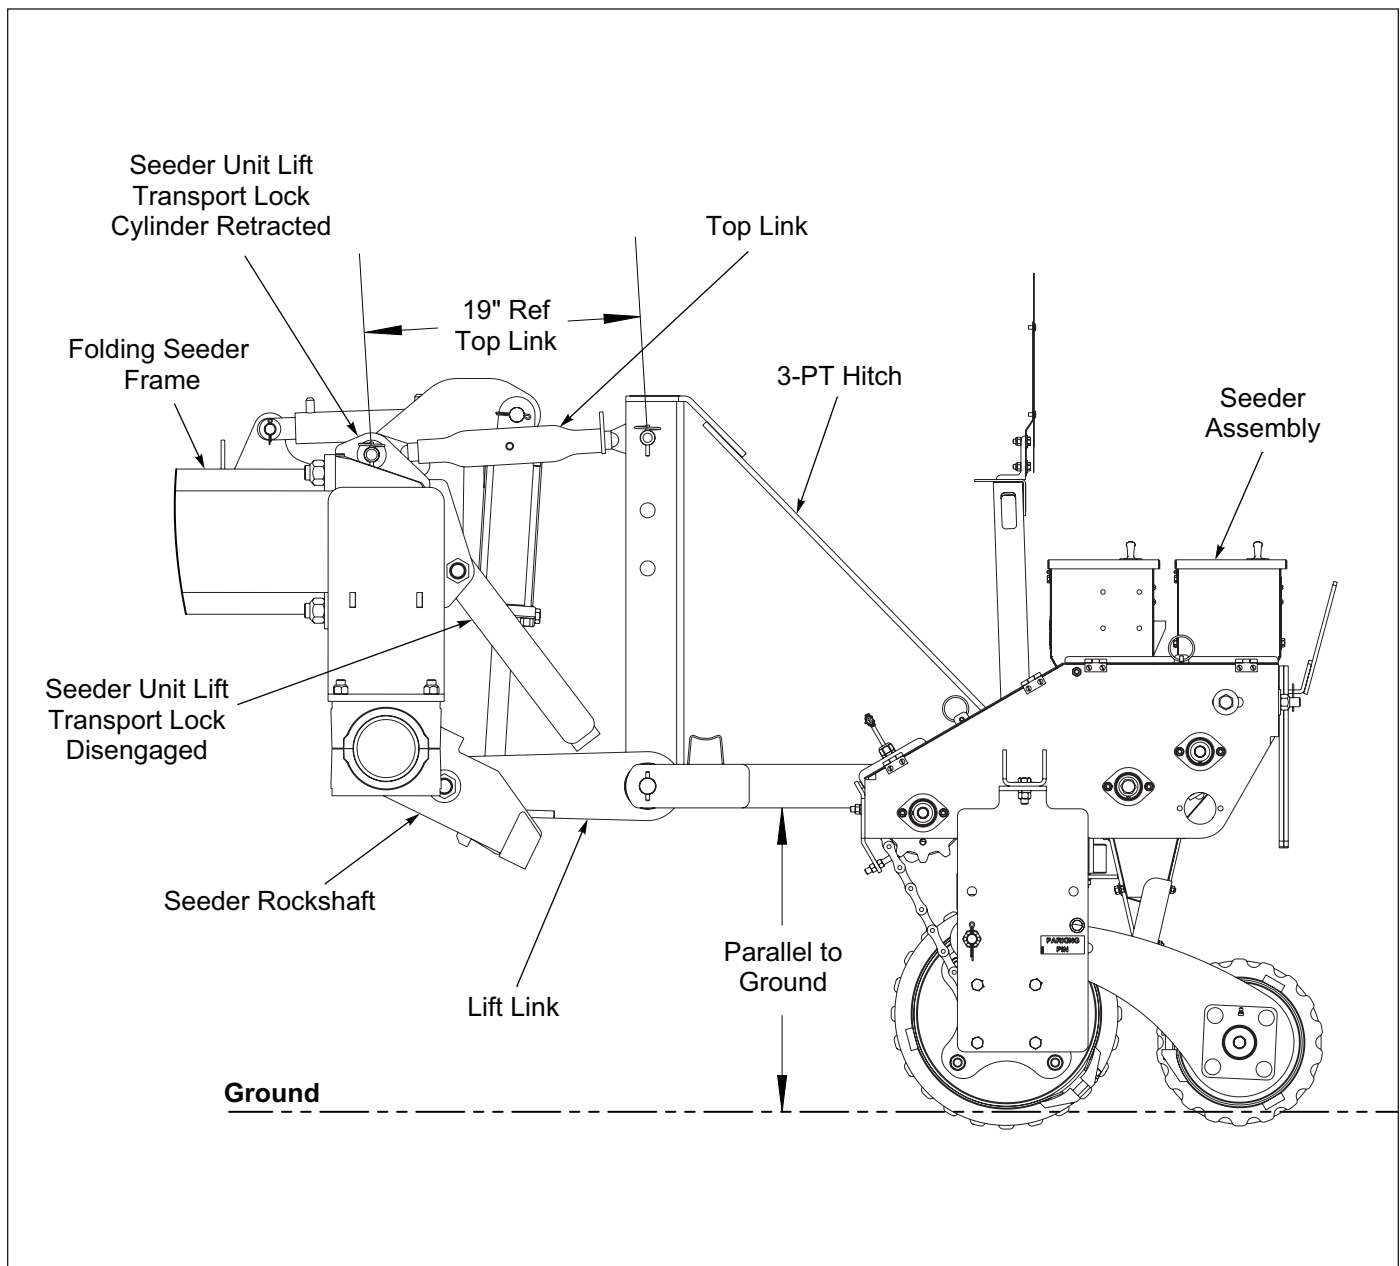

Figure 3-13: Leveling the Seeder Unit
5. Lower the Seeder Unit's 3-PT Lift. Adjust each Seeder Unit's 3-PT Top Link until the Seeder Unit is parallel to the ground. **See Figure 3-13.**